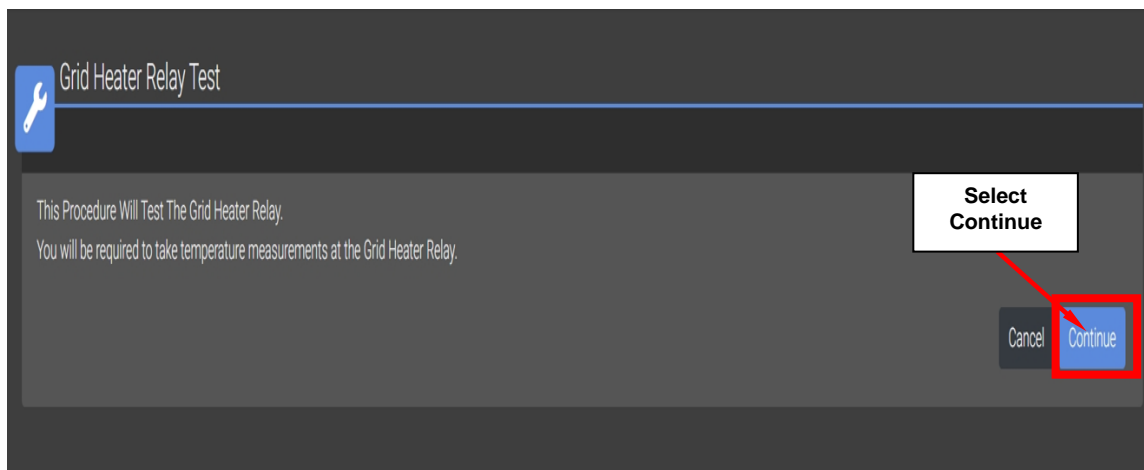

Figure 1 – Grid Heater Test Selection
10. Select “**Continue**” (Figure 1).